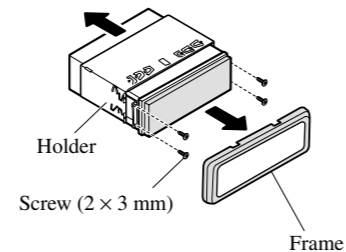

Fig. 10
- **Remove the frame and the holder. (Fig. 10)**